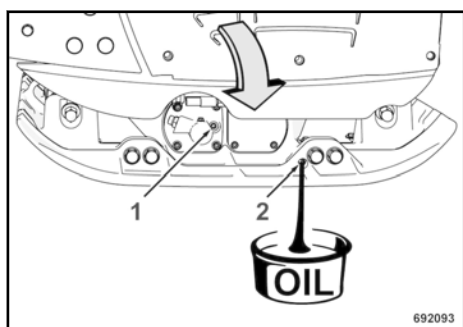

Fig. 60
Unscrew ventilation (1) ↪ Fig. 60 and level inspection plugs (2).